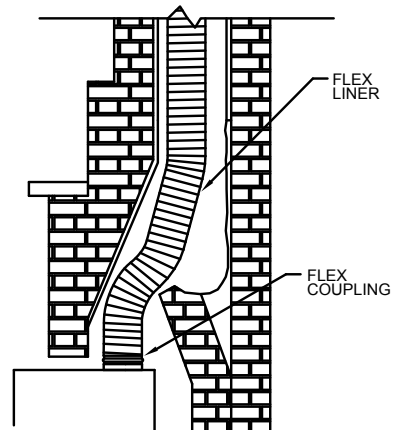

Figure 12
Step 4. After the Flex Liner is pulled through the damper area, attach the Flex Coupling to the end of the Flex with sheet metal screws, then connect it directly to the flue outlet on top of the gas fireplace (*Figure 12*).